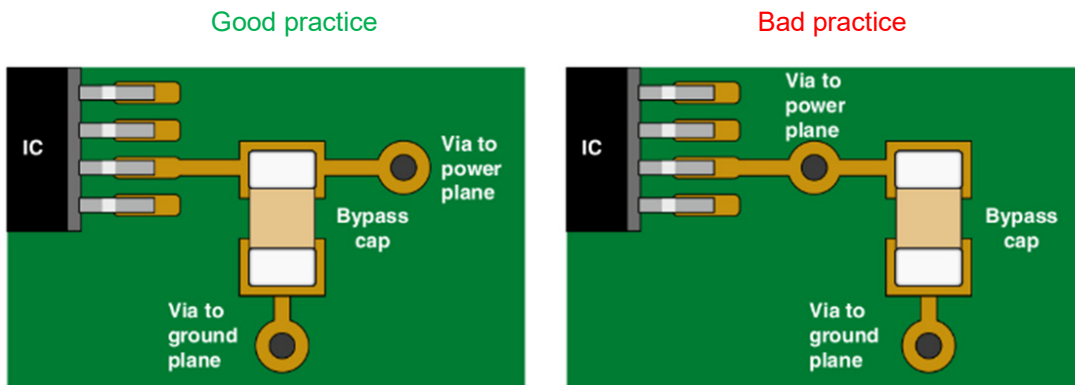

Figure 10. Decoupling Capacitor Layout Practices
- Place the decoupling capacitors in the same layer of the part with a short connection to ground (see Figure 10).